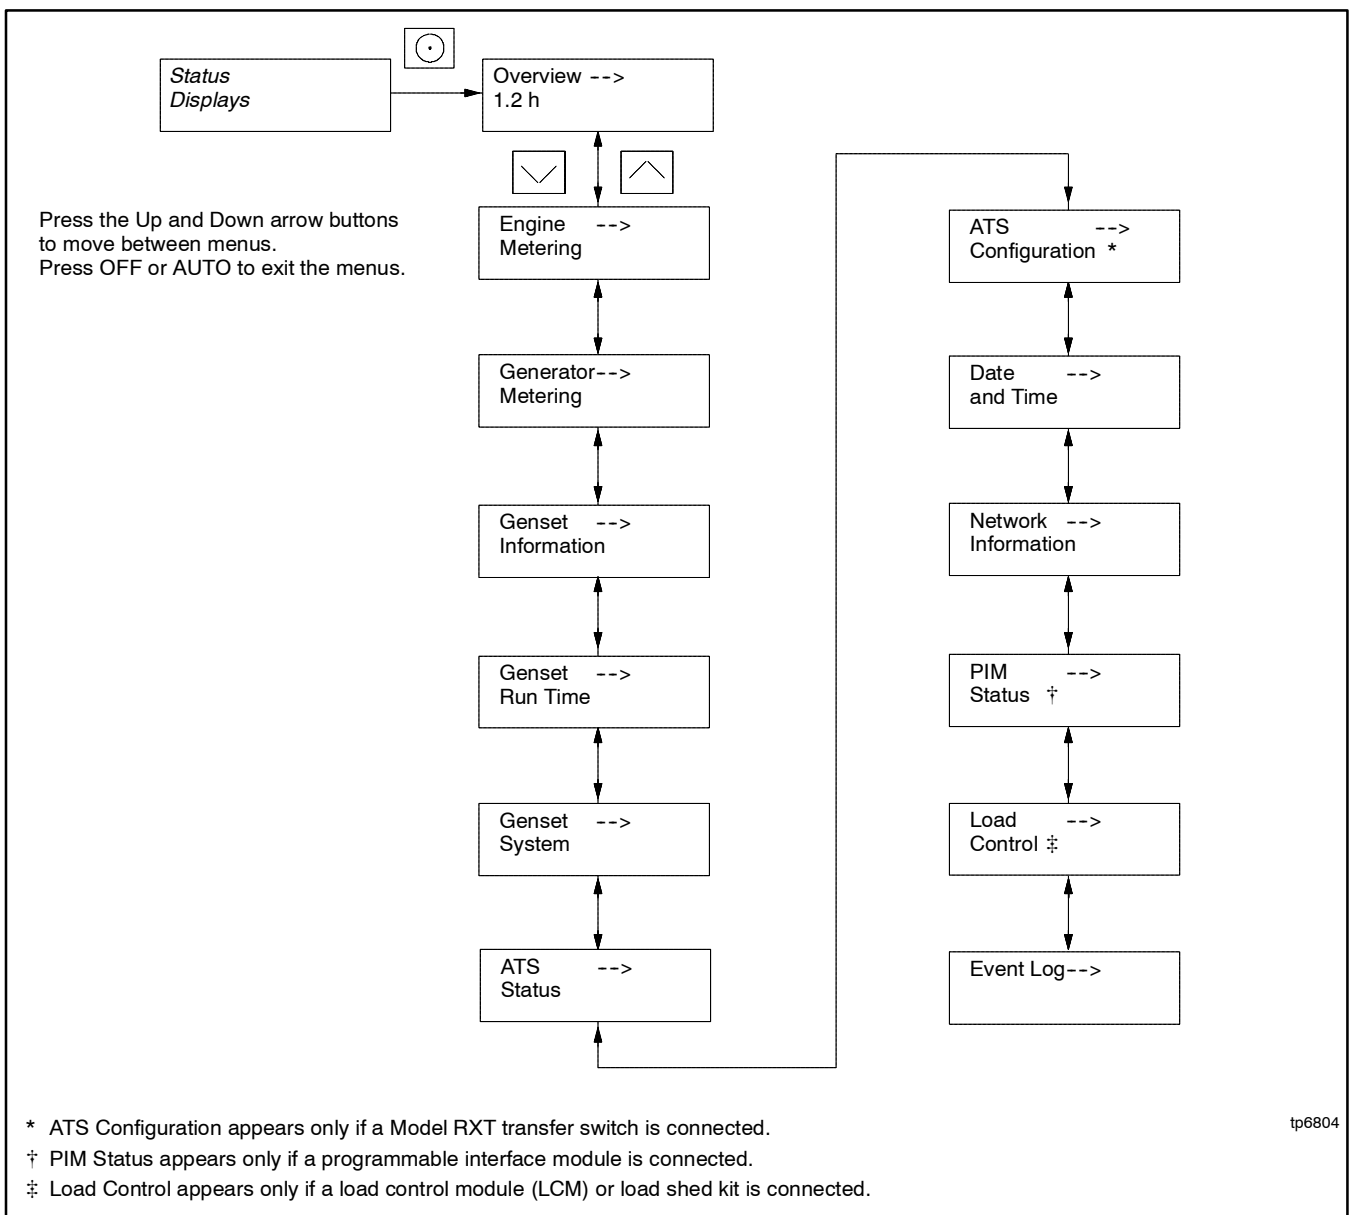

Figure 3-9 RDC2 Main Menu
2. Press the down arrow button until the desired menu is displayed. The Genset System menu is used for this example. See Figure 3-9.
2. Press the down arrow button until the desired menu is displayed. See Figure 3-9. Date and Time are used for this example.
2. Press the Select button to go to the main menu. See Figure 3-9.
Press the Select button once to bring up the main menu. Overview is displayed. See Figure 3-9. Press the down arrow button to step to the next menu, Engine Metering. Use the UP and DOWN arrow buttons to step up and down through the menu shown in Figure 3-9.